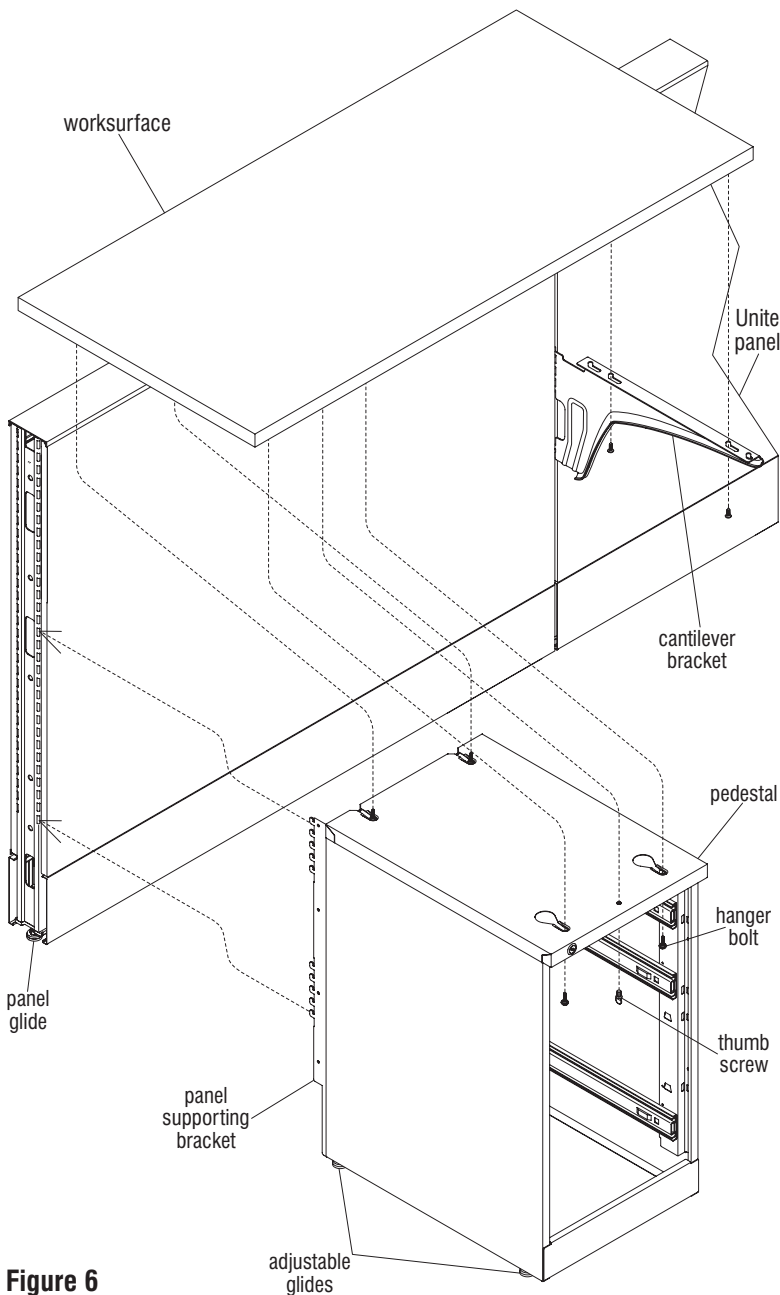

Figure 6
4. To install pedestal to underside of worksurface, align pre-drilled holes in the worksurface with mounting holes of the pedestal. Take care to assure that the front and side of the pedestal is flush with the edges of the worksurface as illustrated (Figure 6).
3. Carefully place worksurface onto the installed cantilever bracket, (if used) and the pedestal. Align mounting holes of the installed bracket to pre-drilled holes in underside of worksurface. Secure using two screws appropriate for the bracket. Take care to not over-tighten screws (Figure 6).
5. Once mounting holes are aligned and cabinet is square, secure pedestal to worksurface using four hanger bolts and one thumb screw (Figure 6).